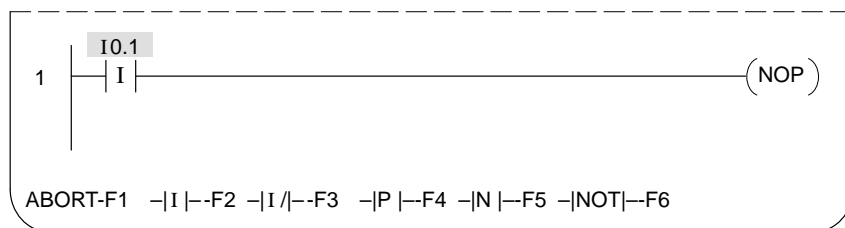

Figure 4-6 Entering Immediate Contacts
2. Press `-| SP` `--F5`. Another string of function keys appears in place of the one you started with. These function keys allow you to choose one of several different special contacts, as shown in Figure 4-6.